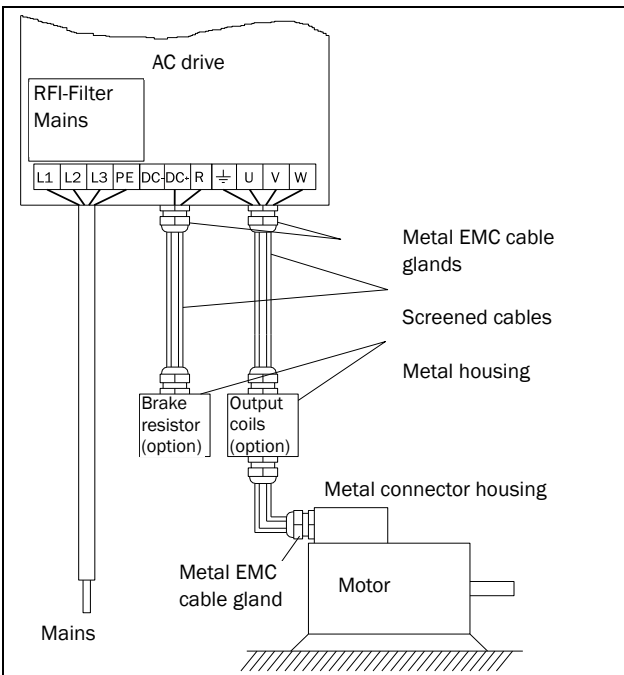

Fig. 37 Connection of mains and motor cables
1. Connect the mains cables as in Fig. 37. The AC drive has, as standard, a built-in RFI mains filter that complies with category C3 which suits the Second Environment standard.
2. Connect the motor cables as in Fig. 37. To comply with the EMC Directive you have to use screened cables and the motor cable screen has to be connected on both sides: to the housing of the motor and the housing of the AC drive.